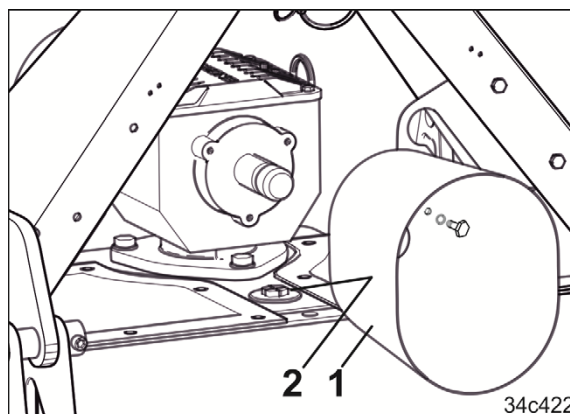

Fig. 141
2. Screw off the protective cap (Fig. 141/1).
3. Open the plug seals (Fig. 141/2).